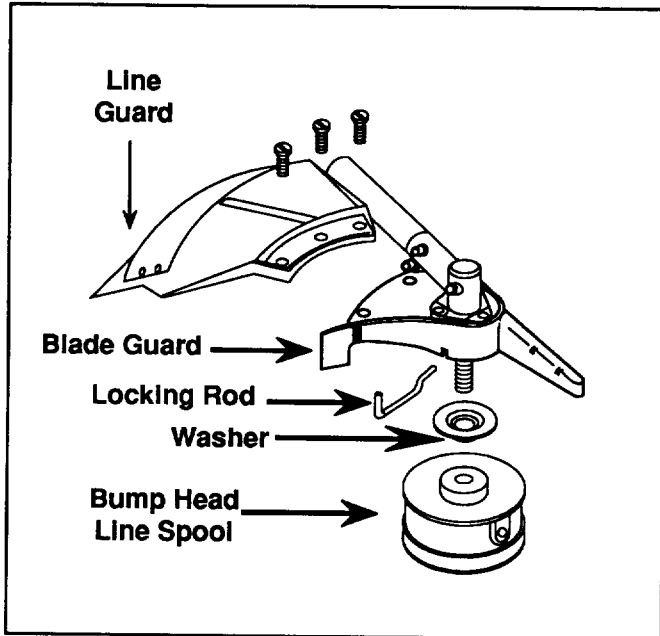

Fig. 4
2. Insert the locking rod into the locking rod slot. Rotate the Bump Head line spool **clockwise**. Remove the Bump Head line spool and washer assembly (Fig. 4).
3. Make sure that you have all of the necessary parts to install the Bump Head line spool (Fig. 4).
4. Insert the locking rod tool into the locking rod slot (Fig. 4). Install the washer and the Bump Head line spool **counterclockwise** onto the shaft.
5. Install the line guard using all of the screws (Fig. 4). Tighten the screws.